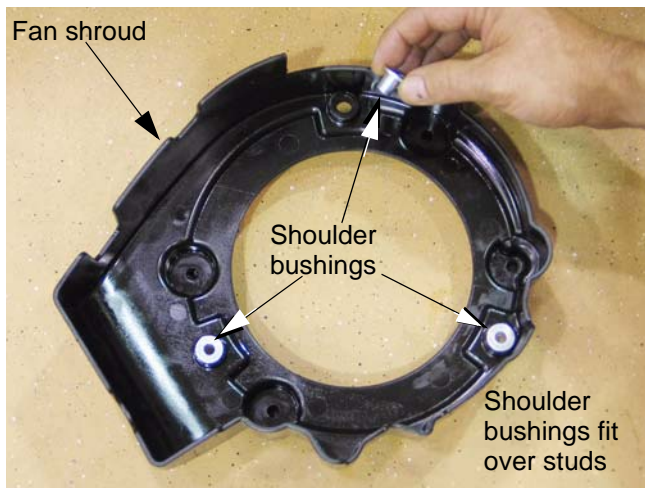

Figure 7.3
- 7.3. Lift the fan shroud off of the three studs that locate it. See Figure 7.3.